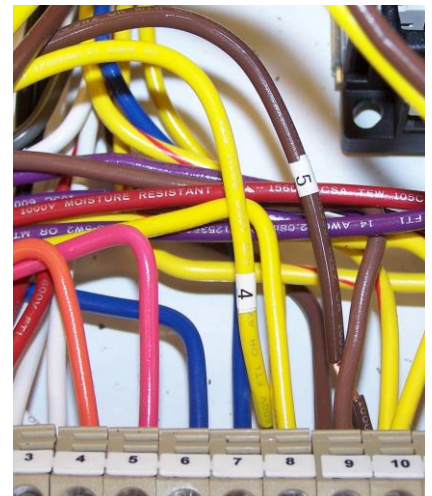

Figure 10
5. The Yellow wire labeled #4 connects to “FORWARD” terminal strip position #15 and the Brown wire labeled #5 connects to “REVERSE” terminal strip position #16 (Figure 10).